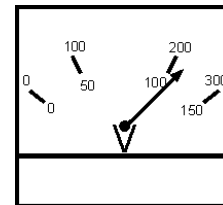
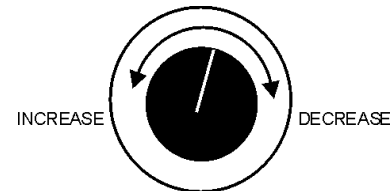

Figure 42. Voltage Meter (Volts)
Figure 43. Voltage Adjust Control Knob
11. The generator's voltage meter (Figure 42) displays the 120 VAC in **VOLTS**. If the voltage is not within the specified frequency tolerance, use the voltage adjustment control knob (Figure 43) to increase or decrease the desired voltage.